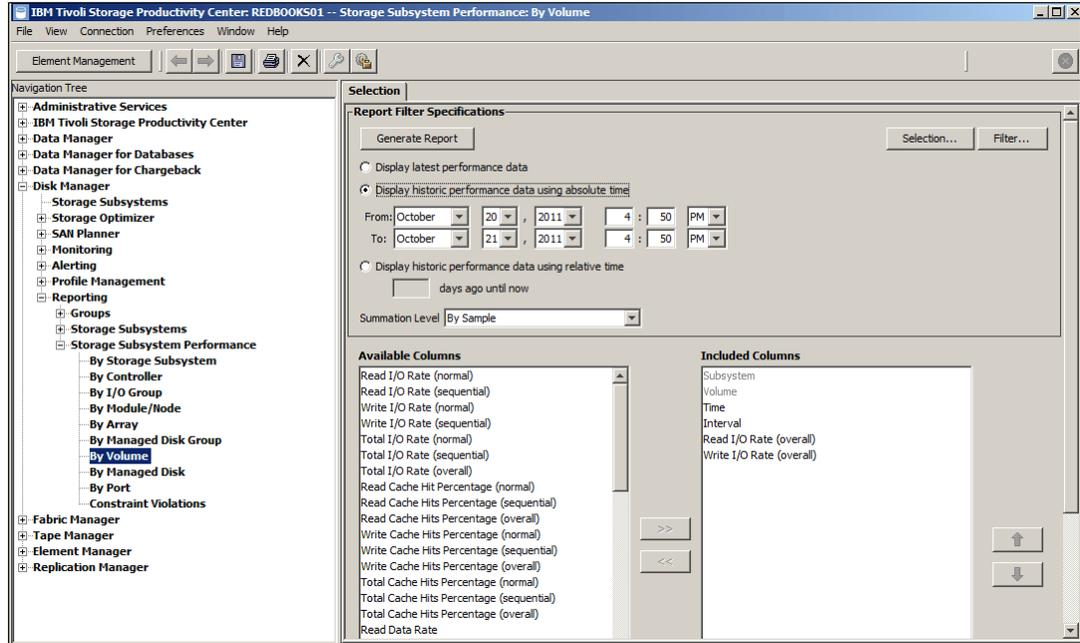

Figure 9-42 Selecting performance metrics and historical data
2. On the Selection tab, move all performance metrics in the Included Columns into the Available Columns, except for read I/O rate (overall) and write I/O rate (overall) metrics. Check the Display historic performance data check box and select the start and end dates to generate a historical report, as shown in Figure 9-42.